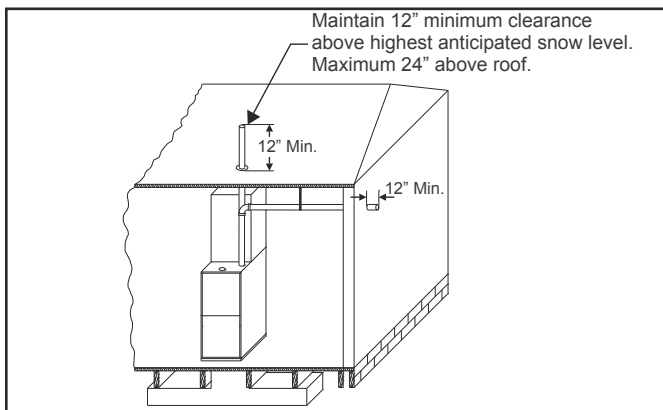
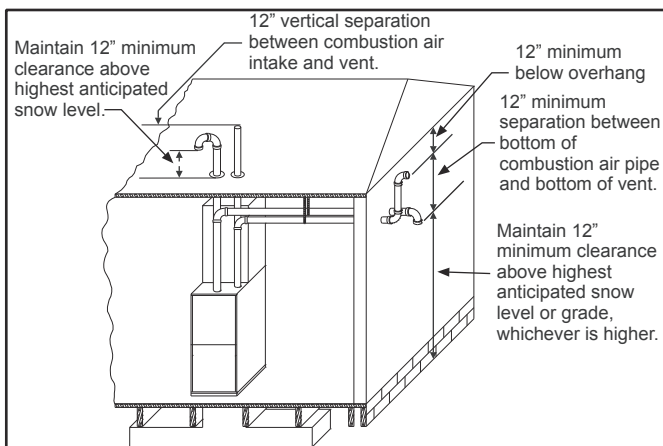
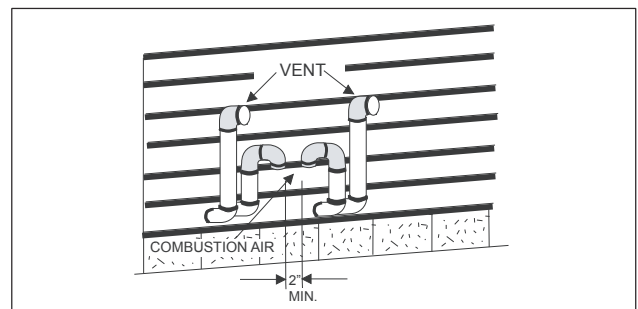

Fig 20: Termination Configuration - 1 Pipe
Fig 21: Termination Configuration - 2 Pipe
Fig 23: Double Horizontal Combustion Air Intake and Vent Termination
7. Direct vent systems must be installed so the vent and the combustion air pipes terminate in the same atmospheric zone. Refer to Figures 21 or 22.
Multiple units can be installed in a space or structure as either a single pipe configuration or a two-pipe configuration. The combustion air side of the single pipe configuration shown in Figure 20 is referred to in these instructions as ambient combustion air supply. Follow the instructions for ambient combustion air installations, paying particular attention to the section on air source from inside the building. The vent for a single pipe system must be installed as specified in the venting section of these instructions with the vent terminating as shown in Figure 20. Each furnace must have a separate vent pipe. Under NO circumstances can the two vent pipes be tied together. The combustion air side of the two-pipe configuration shown in Figure 21 can be installed so the combustion air pipe terminates as described in outdoor combustion air or ventilated combustion air sections in these instructions. Follow the instructions for outdoor combustion air or ventilated combustion air and the instructions for installing the vent system with the vent terminating as shown in Figures 23 or 24. The two-pipe system must have a separate combustion air pipe and a separate vent pipe for each furnace. Under NO circumstances can the two combustion air or vent pipes be tied together. The combustion air and vent pipes must terminate in the same atmospheric zone.
- 1. OUTDOOR COMBUSTION AIR:** This is a direct vent configuration where the combustion air is supplied through a PVC or ABS pipe that is connected to the PVC coupling attached to the furnace and is terminated in the same atmospheric zone as the vent. This type of installation is approved on all models. Refer to Figure 23.
- 2. AMBIENT COMBUSTION AIR:** Combustion air is supplied from the area surrounding the furnace through openings in the furnace casing. The combustion air and the vent pipes are not terminated in the same atmospheric zone. Refer to Figure 21 for vent terminations. Refer to "Ambient Combustion Air Supply" for proper installation. Refer to Fig 23.